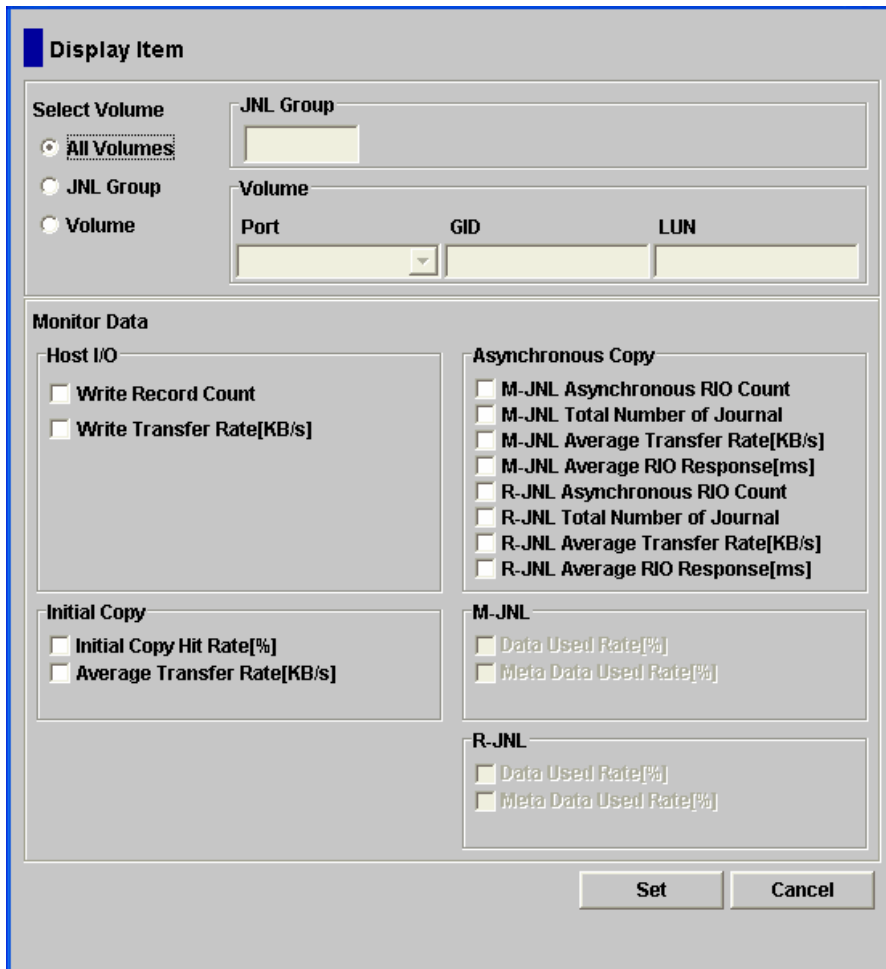

Figure 8-1 Display Item Window
2. Right-click the graph area of the Usage Monitor window, and select Display Item to open the Display Item window (see Figure 8-1).